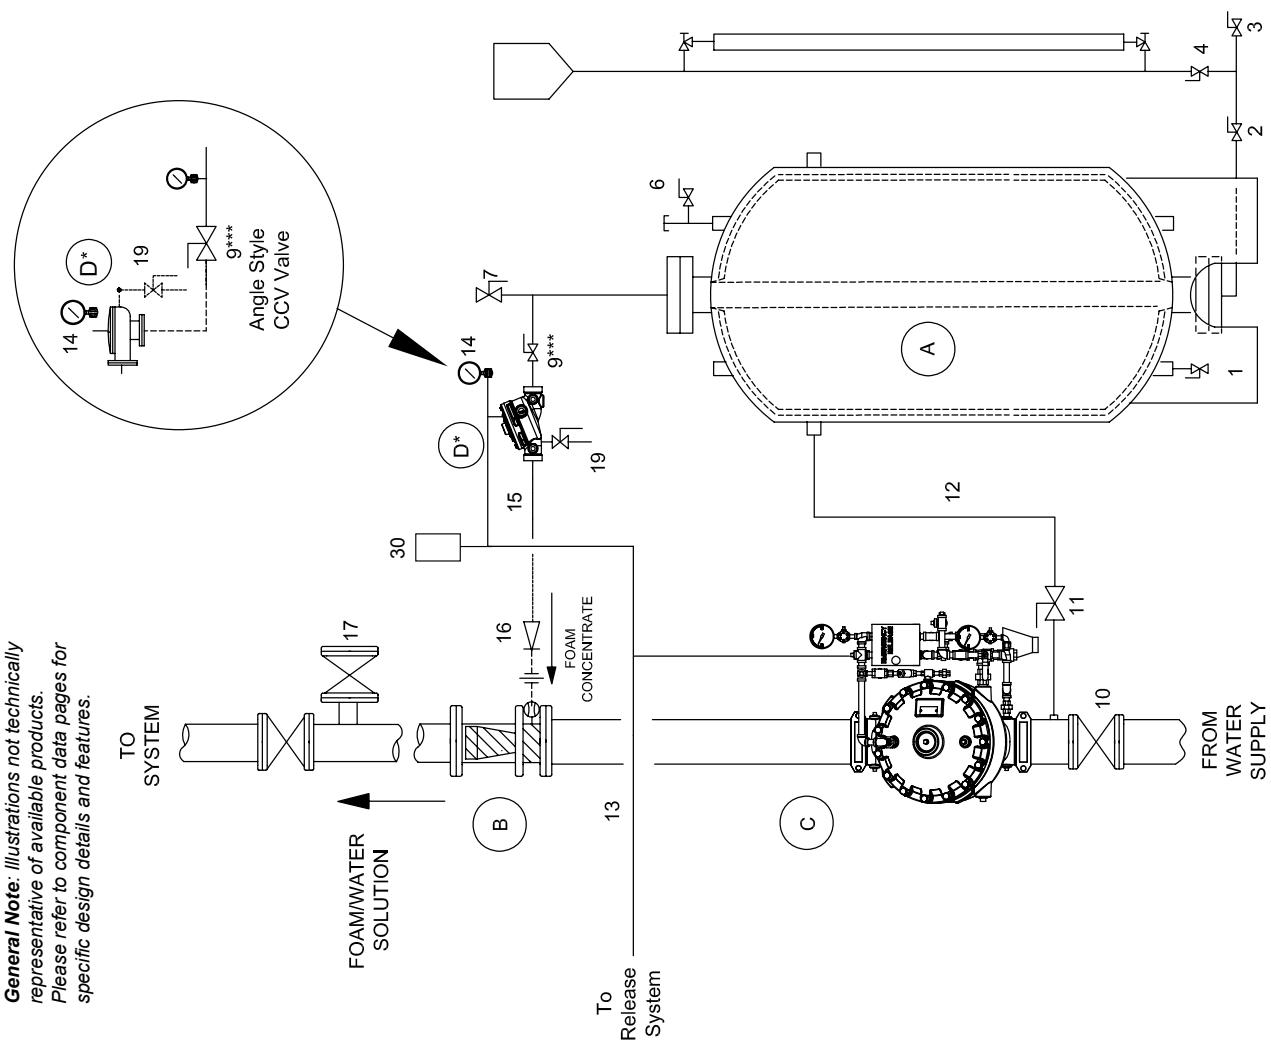

Figure 2
F. The Halar® coated deluge CCV (D) does not require any trim, except for a ½" priming line (13) and water pressure gauge and 3-way valve (14) from the main deluge valve (C) to the priming chamber of valve (D). Plug all the remaining valve trim outlets. Connect Halar® coated deluge CCV (D) priming line (13) to deluge valve (C) as shown on Figure 2. Refer to the "Valves" section of this data book to find the correct trim kit part number for the corresponding size of Halar® coated foam deluge CCV (D) required.
G. A strainer is not required in the foam concentrate discharge piping (15) of bladder tank systems per NFPA Standards.